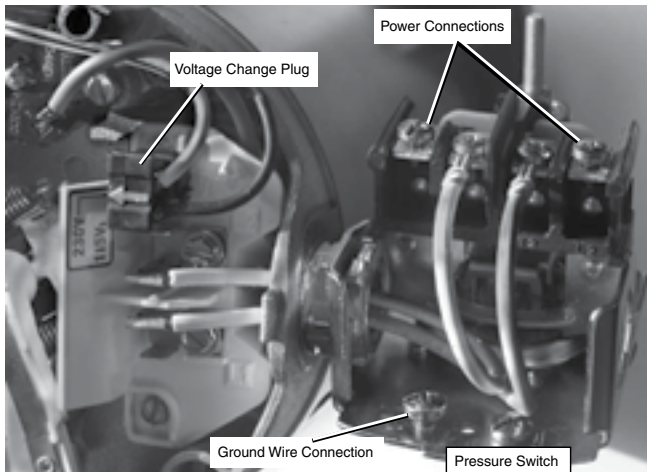

Figure 6 - Voltage set to 230 V, Plug Type
4. Attach the incoming power leads to the two outer screws on the pressure switch as shown in Figure 6.
5. Attach the ground wire to one of the grounding connections, shown in Figure 6.
1. Connect the ground wire first as shown in Figure 6. The ground wire must be a solid copper wire at least as large as the power supply wires.
4. Connect the power supply wires to the pressure switch as shown in Figure 6. Pump should be connected to a separate electrical circuit directly from the fuse box or circuit breaker panel.